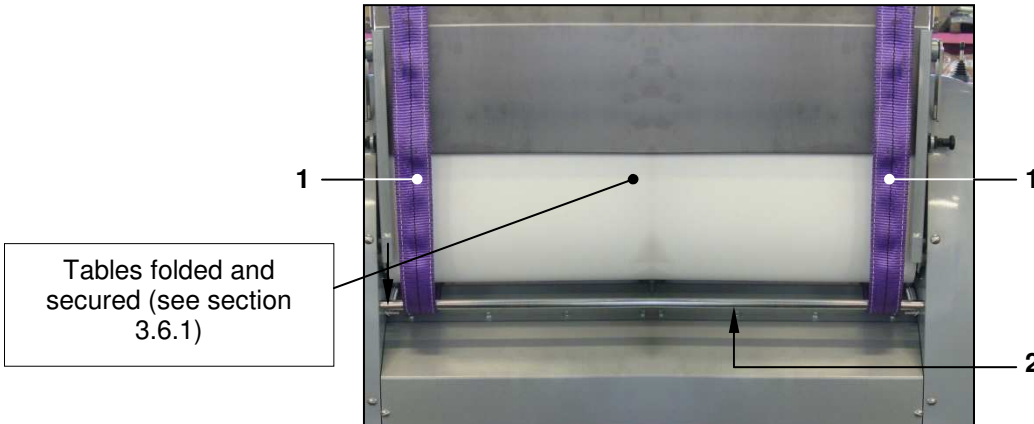

Figure 9 - Lifting slings for model SF450
- model SF450: the benches must be in the folded position and secured (see section 3.5.1). Place two slings ref. 1 having a suitable lifting capacity (the weight of the machine is indicated in section 2.6, as well as on the plate), under the crosspieces ref. 2 (one on each side) as shown in Figure 9. Then connect them to lifting equipment with a hook, such as a crane, hoist, etc. **(do not for any reason connect them to the forks of a forklift truck).**